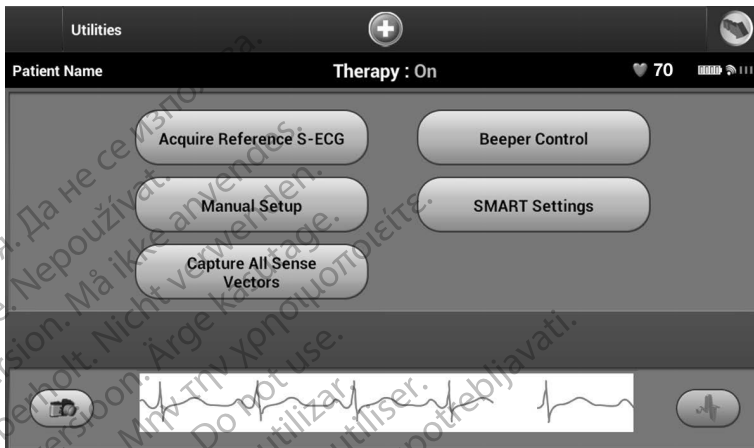

Figure 22: Utilities screen
It is also possible to capture S-ECGs corresponding to all three sense vectors (Primary, Secondary, and Alternate) by using the Capture All Sense Vectors button on the Utilities screen (Figure 22).
2. Select the Utilities button. The Utilities screen appears (Figure 22).